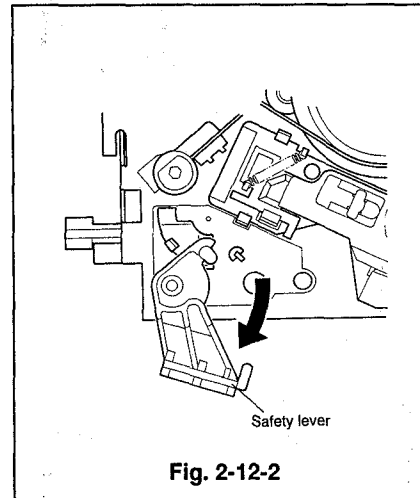

Fig. 2-12-2
- 3 Turn the safety lever clockwise and remove by raising it upward as shown in Fig. 2-12-2.